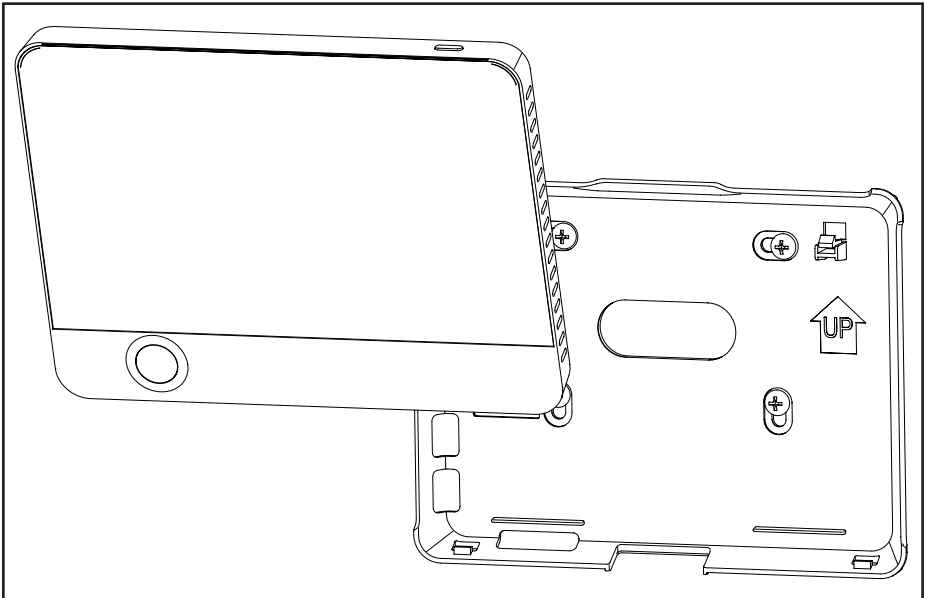

Figure 6. Insert Controller into Back Cover
4. Insert the controller into the bottom snap joints of the back cover at an angle. See Figure 6.